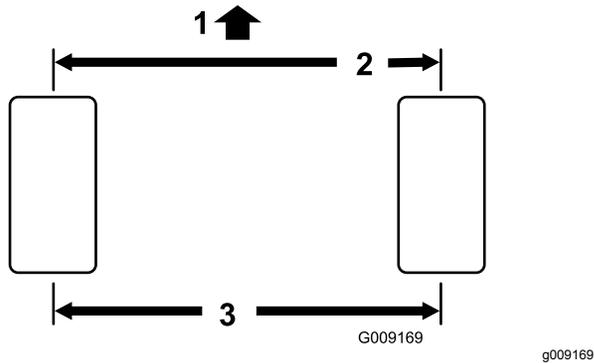

Figure 88
1. Measure the center-to-center distance (at axle height) at the front and rear of the steering tires (Figure 88).